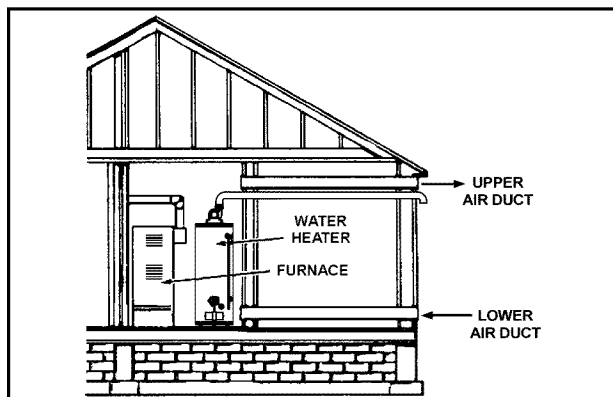

Figure 18
3. When communicating with the outdoors through horizontal ducts, each opening shall have a minimum free area of 1 square inch per 2,000 Btu/hr ($11\text{cm}^2/\text{kW}$) of total input rating of all equipment in the enclosure (see Figure 18).
4. When ducts are used, they shall be of the same cross-sectional area as the free area of the openings to which they connect. The minimum short side dimension of rectangular air ducts shall not be less than 3" (76mm) (see Figure 18).